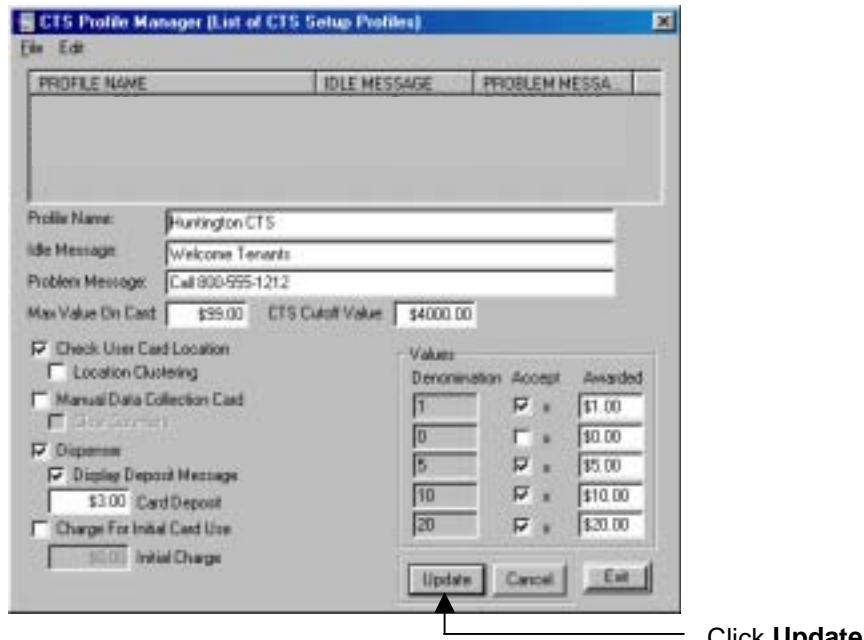

Figure 3.11 Updating the Database
Denomination Accept/Awarded	Click on all boxes other than \$2.00 to accept all other bill denominations. Awarded column values should match the Accept column values (see Figure 3.11).
5. Once all information has been entered correctly, click **Update** to store the information into the database (Figure 3.11).
Denomination Accept/Awarded	Click on all boxes other than \$2.00 to accept all bill denominations other than two-dollar bills. Awarded column values should match the Accept column values (see figure 3.11 above).